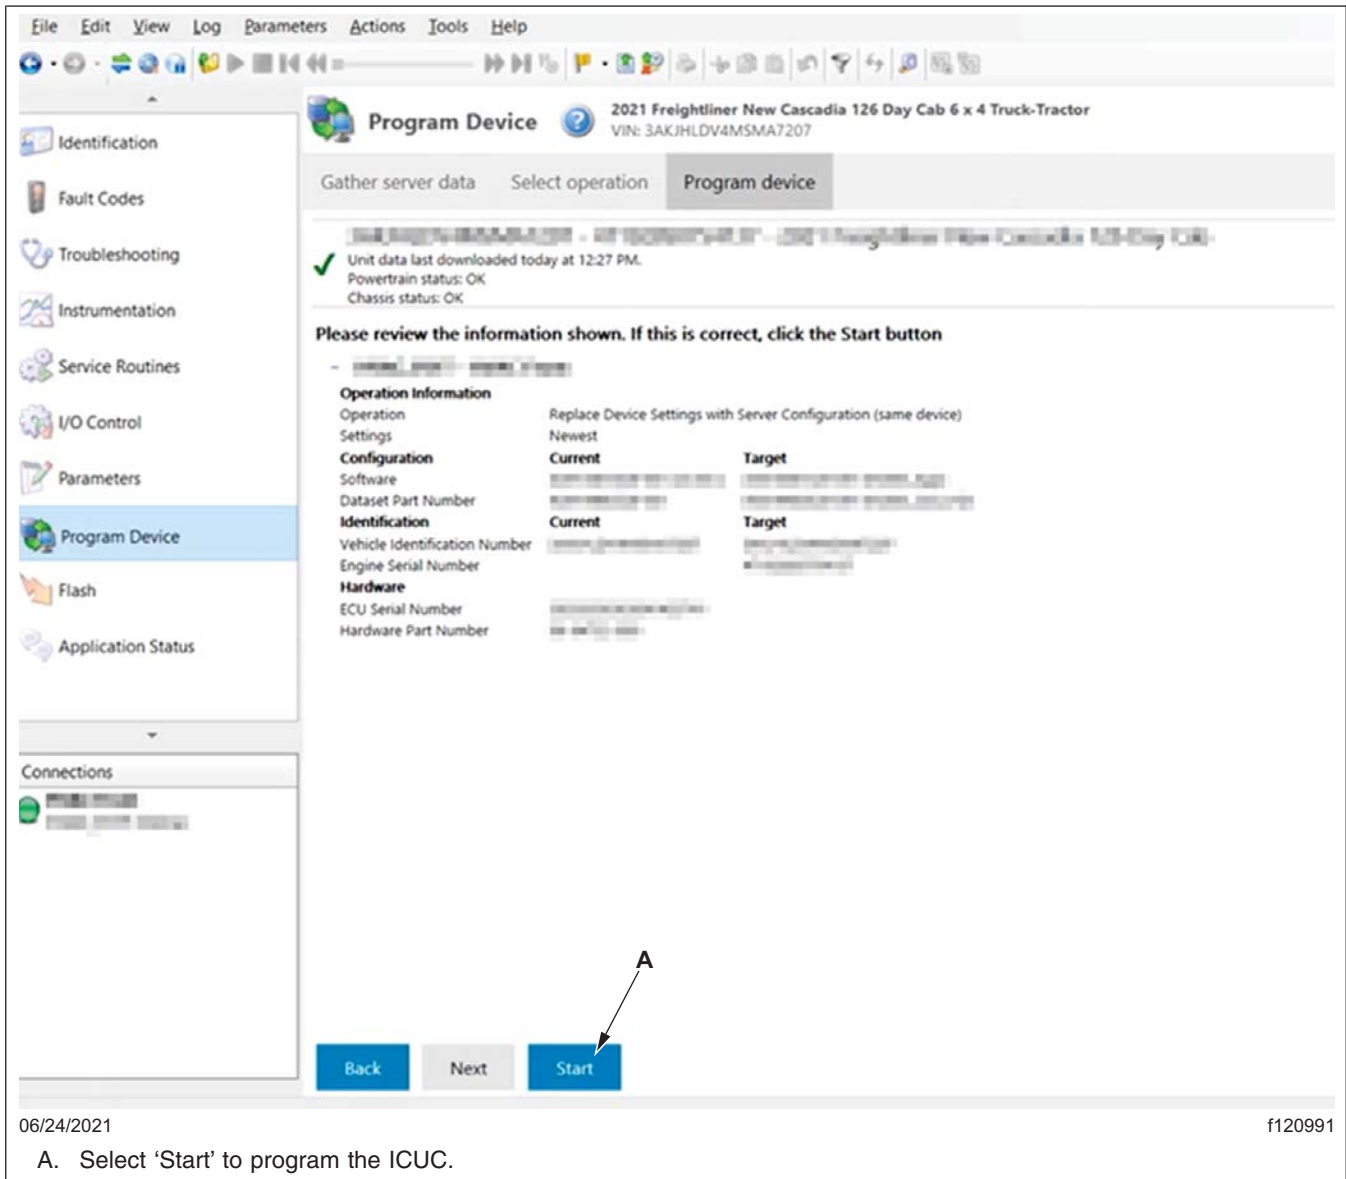

Fig. 10, Starting the ICUC Programming
13. Verify the VIN, hardware and software information, then select 'Start' to program the ICUC. See Fig. 10.